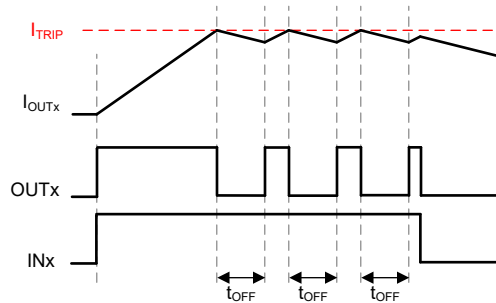

Figure 7-4. Inductive Load Connected to ground, fixed off-time current chopping
- For the scenario shown in Figure 7-4, with $IN_x = 1$, the low-side MOSFET is turned on for t_{OFF} duration after I_{OUT} exceeds I_{TRIP} . After t_{OFF} , the high side MOSFET is again turned on till I_{OUT} exceeds I_{TRIP} again.